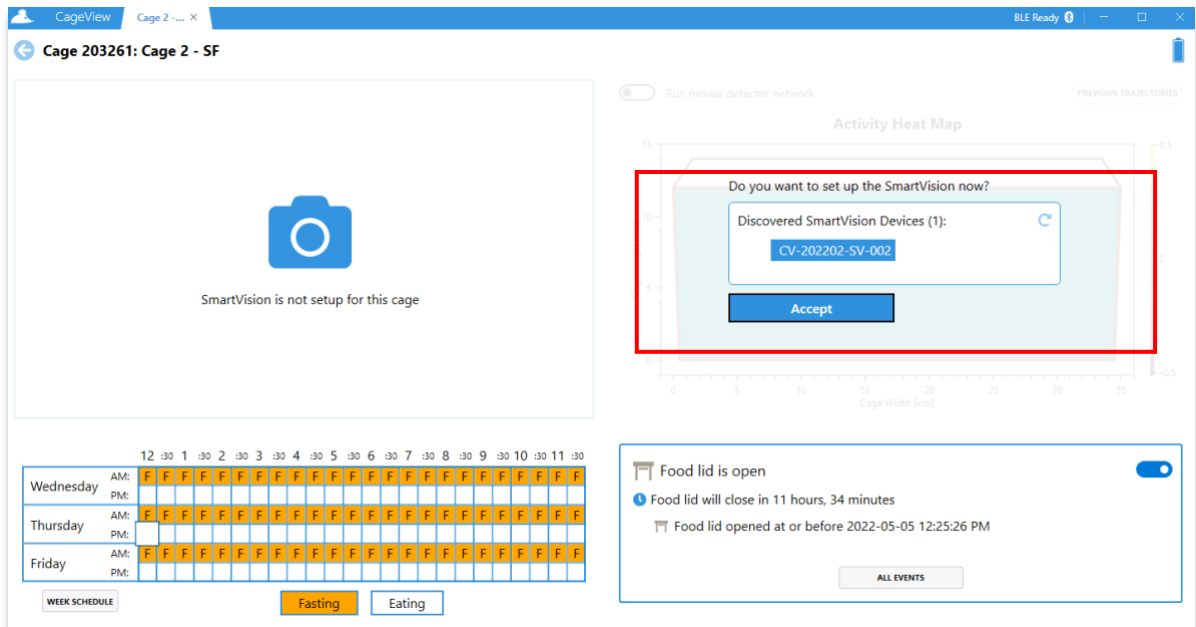

Figure 31. Connecting SmartVision device to an existing CageView
6.1.1. To connect SmartVision to an existing cage, click the scan button and select your desired SmartVision device. Click the "**Accept**" button afterward (**Figure 31**).